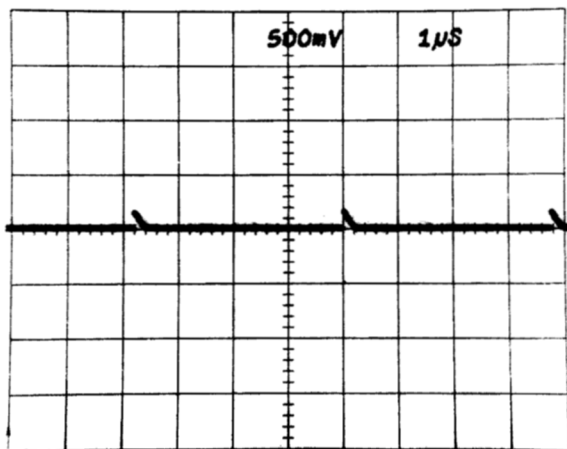

Fig. 7-6. Three 10 ms Markers Per Scan.
b. Rotate the SCAN control counterclockwise slowly. Notice that the time markers will slow down, stop drifting in one direction, then start drifting in the other direction. The first point at which the time markers stop drifting and change direction must display three time markers (see Fig. 7-6) for the maximum scan rate to be between 25 and 40 hertz. If there are more or less than three time markers at this point, the adjustment of R381 is required.